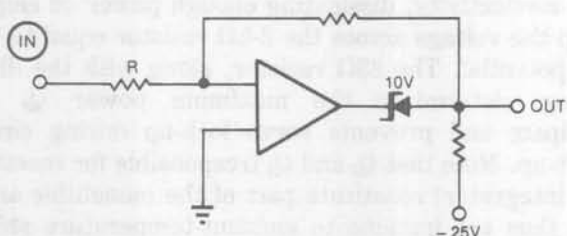

Fig 9—You can invert a 0 to 20V input easily with one 741.
22. Fig 9 shows a simple unity-gain inverter.